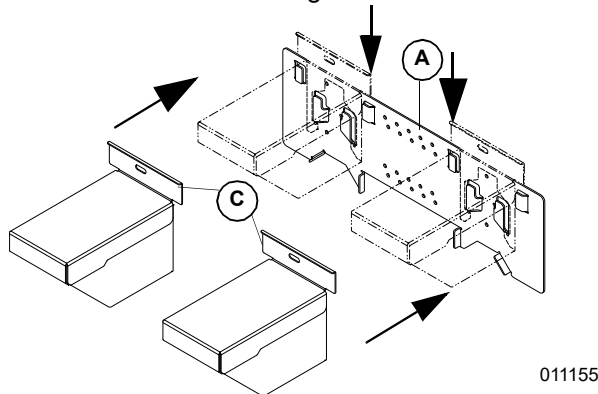

Figure 3. Insert Stands Onto Foot Bracket
- See **Figure 3**. Slide foot stands (C) onto foot bracket (A) making sure underside of pockets clear bottom bracket before engagement. Proper installation is achieved by lining up the top edge of foot bracket to the bottom edge of the stands.